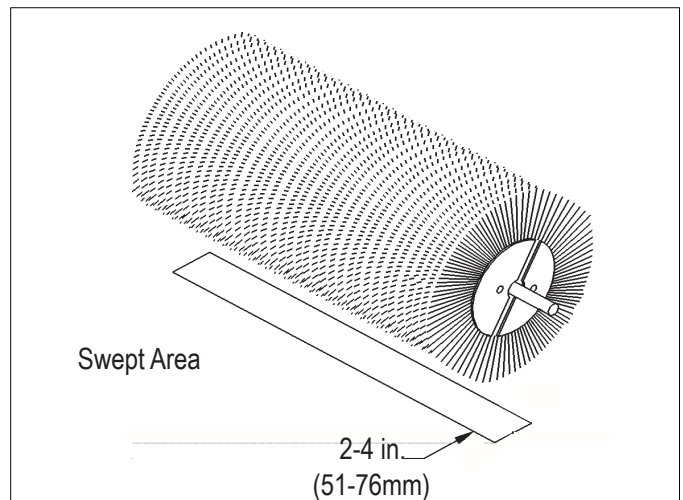

figure 5
4. Raise the sweeper and back away; switch off the engine and remove the key. The brush pattern left in the dust should be 2-4 inches wide, running the length of the brush. (Compare the swept area with figure 5.)